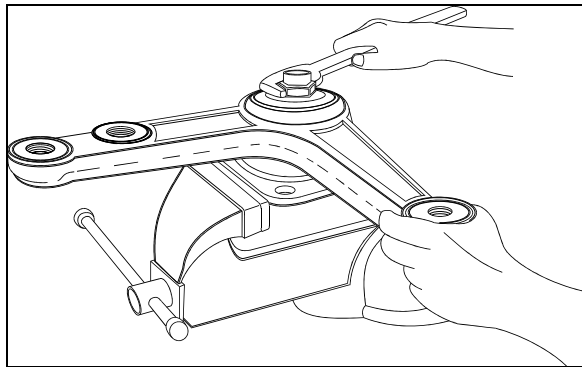

FIGURE 14: BELL CRANK 16044
5. Firmly tighten nut (Fig. 14).